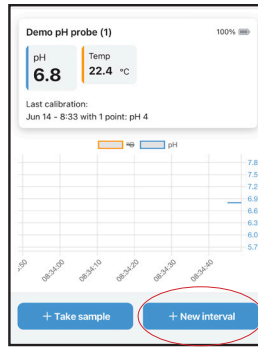

Figure 1
- Select **+ New Interval** to take a single measurement (Figure 1)